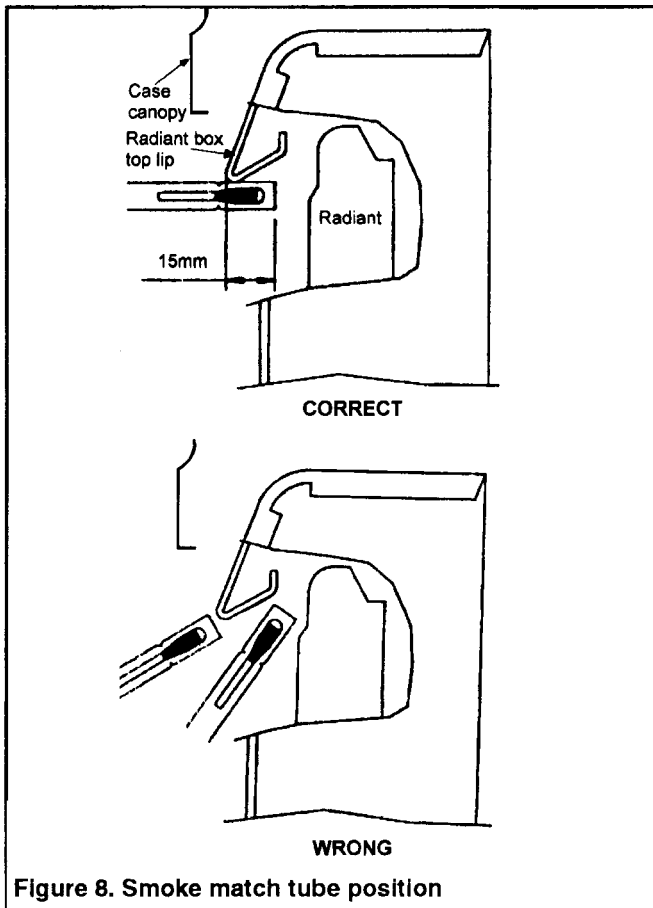

Figure 8. Smoke match tube position
5.3.4 Place the smoke match tube horizontally under the top lip of the radiant box and at least 50mm away from the sides of the radiant box. See figure 8.